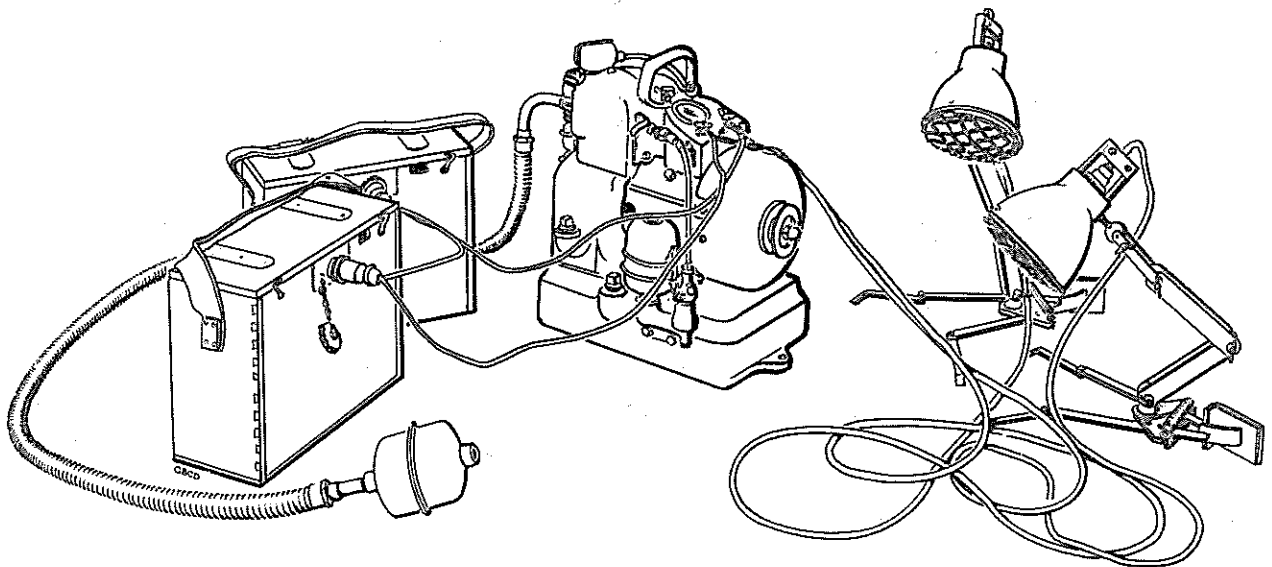

FIG.1. TINY-TIM PETROL-ELECTRIC GENERATING SET
1. **General.** The generating sets and batteries described in this instruction have been obtained from surplus service equipment to serve immediate needs and later sets will be designed specifically for the needs to be met. The Model L244 "Tiny Tim" Petrol-electric Generating Set, and associated equipment, to be used for lighting on external work is described in the following paragraphs. Instructions for the operation and maintenance are also included. The complete equipment is illustrated in Fig.1 and consists of:-